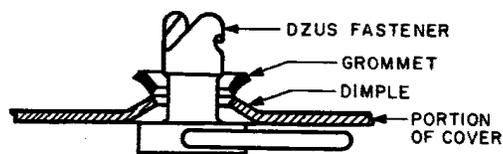

Fig. 7 – Mounting GH5 Grommet on Fastener Stud (Small Diameter Against Dimpled Cover)
5.03 Covers With Dimpled Holes: To replace Dzus fastener stud on a cover with a dimpled hole, remove the cover as covered in 4.03. Where the stud is loose on the cover or if the dimple is deformed, proceed as follows. Cut off the head of the stud with the hack saw and remove the stud from the cover. *Where the dimple is satisfactory*, proceed as follows. Insert a new Dzus fastener of the same list number (L2 or L7) through the dimpled hole and rest the head of the fastener on a hard surface. Place a Dzus GH5 grommet over the cam end of the fastener stud so that the small diameter of the grommet rests on the dimple as shown in Fig. 7.